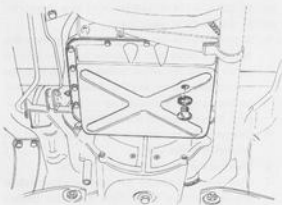

Fig. 4-86. Oil drain plug
2. Drain the oil into a clean container, see Fig. 4-86. **NOTE. The oil may be very hot and scald if contact is made with the skin.**